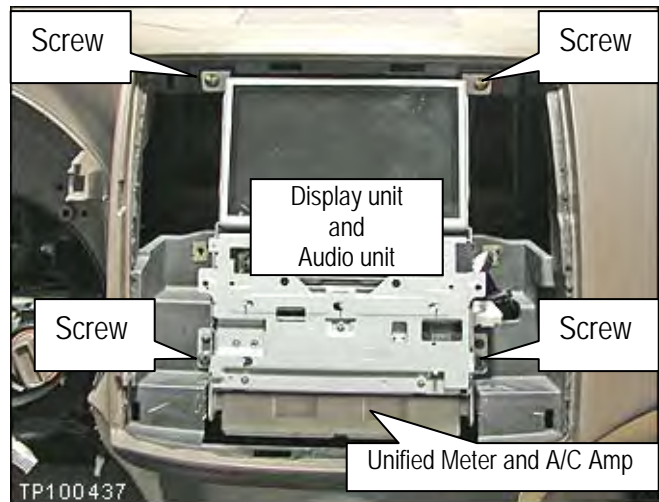

Figure 19
- a. Remove the 4 screws shown in Figure 19.